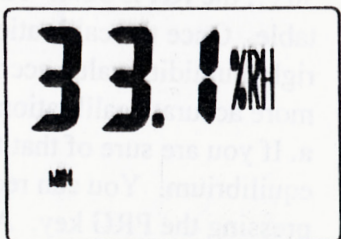

FIG 12
3. Press RESET twice, the LCD displays 32.X% and MIN (Fig. 12). The low humidity calibration will be in process automatically. This process will be completed in about 40 minutes with "SA", "MAX" and "MIN" shown by LCD display (Fig. 13).